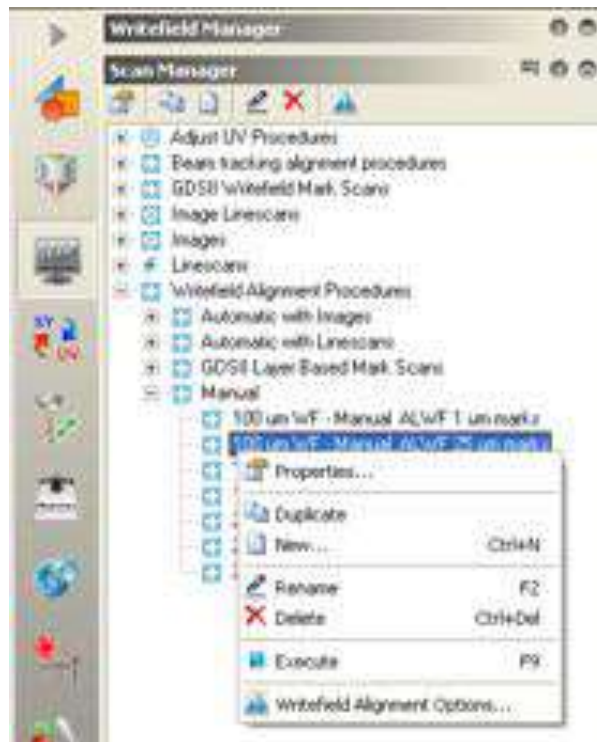

Figure 23 Scan Manager tab in the Writefield Control menu in the Raith window
22. In the Raith software, click on the **Writefield Control** menu, minimize the **Writefield Manager** window, and enable the **Scan Manager** window. In the current window, select **Writefield Alignment Procedures >> Manual >> 100 um WF – Manual ALWF 25 um marks >> right click >> Execute** as shown in Fig. 23.